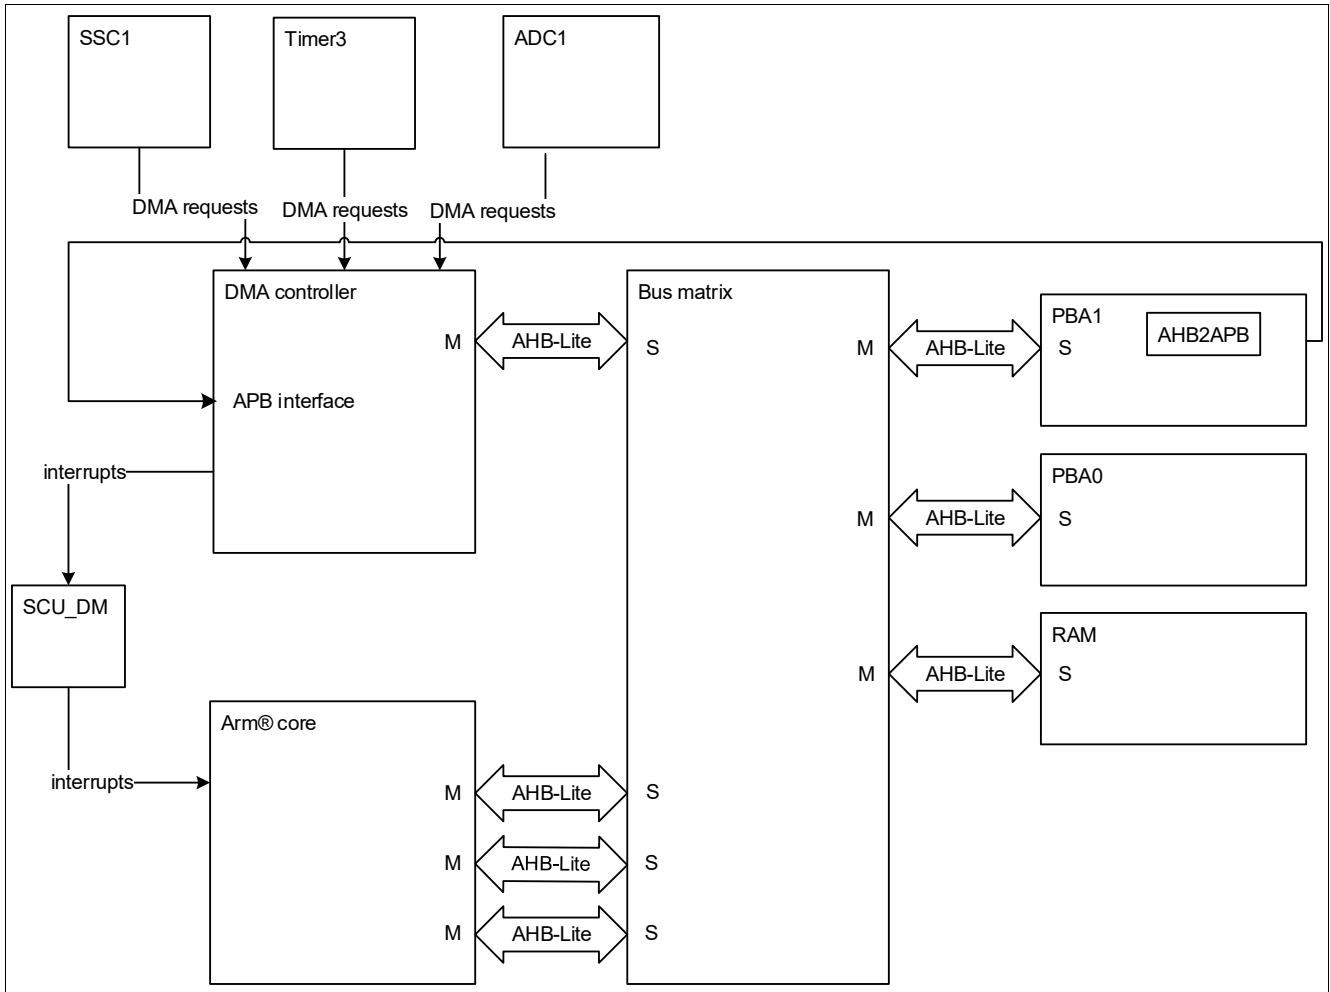

Figure 12 DMA controller top level block diagram
**Figure 12** shows the top level block diagram of the TLE9877QTW40.